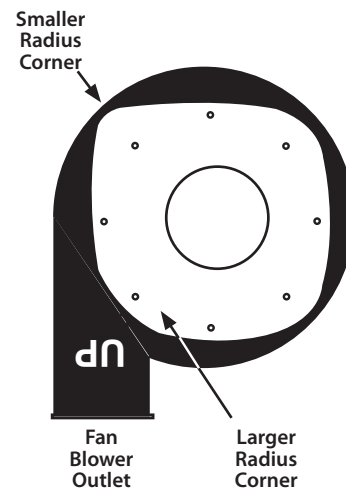

FIG. 6
Carefully lift Motor Assembly (A) on top of Fan Housing (B) and align the Fan Housing holes with the motor plate holes following the orientation show in [FIG. 6].